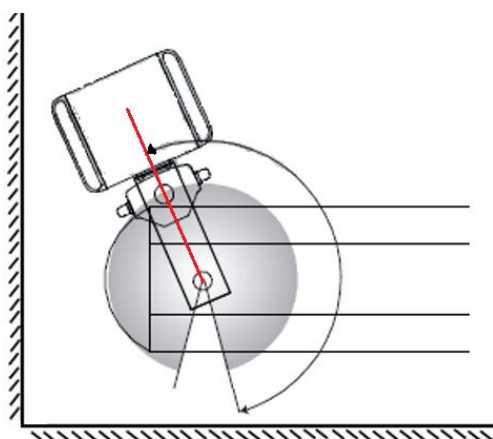

Fig.21 Fixing the left pivot stop of a column with extension arm.
- If necessary, adjust the left-hand rotation. To do this, follow the steps shown in this point, bearing in mind that to set the left-hand stop you must bring the column to the maximum desired position for left-hand rotation and then insert the previously removed Allen screw ② as shown in figure 21.